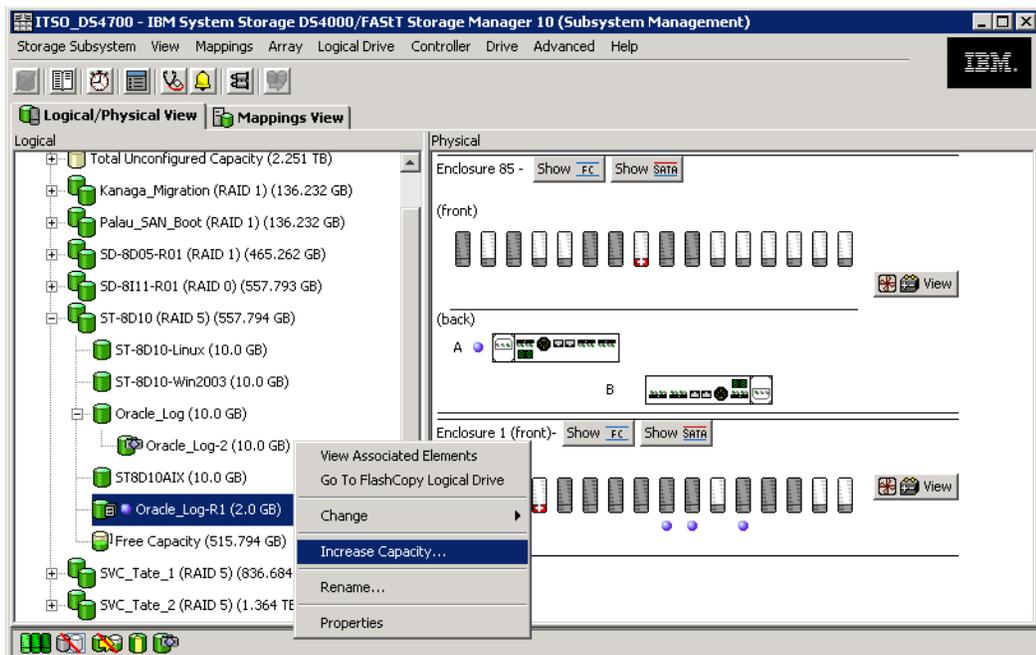

Figure 7-31 FlashCopy Repository logical drive: Increase Capacity
2. Click **Logical Drive** → **Increase Capacity** or right-click and select **Increase Capacity** (Figure 7-31).